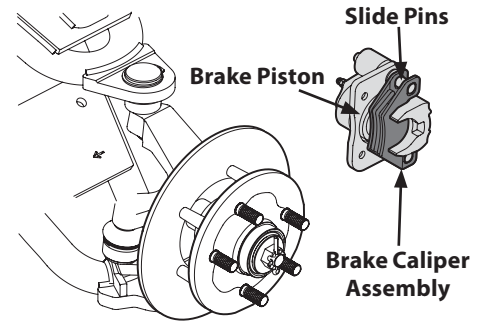

Figure 4-12
2. Remove brake caliper assembly from brake disc. See Figure 4-12.
4. Clean and lube slide pins. See Figure 4-12.
5. Press in brake piston. See Figure 4-12.